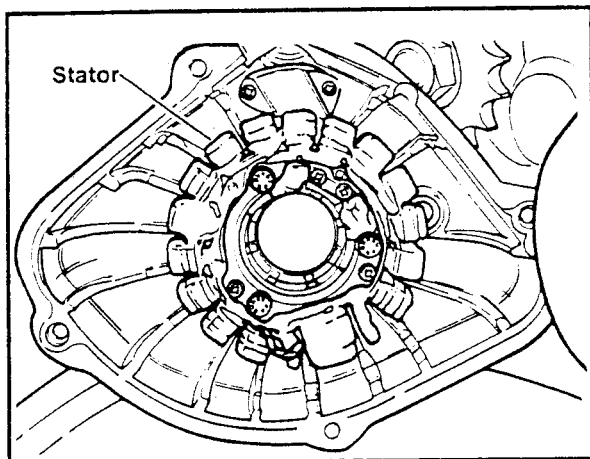

Figure 4-3. Stator Position
5. See Figure 4-3. Position the stator assembly in the magneto cover as shown.